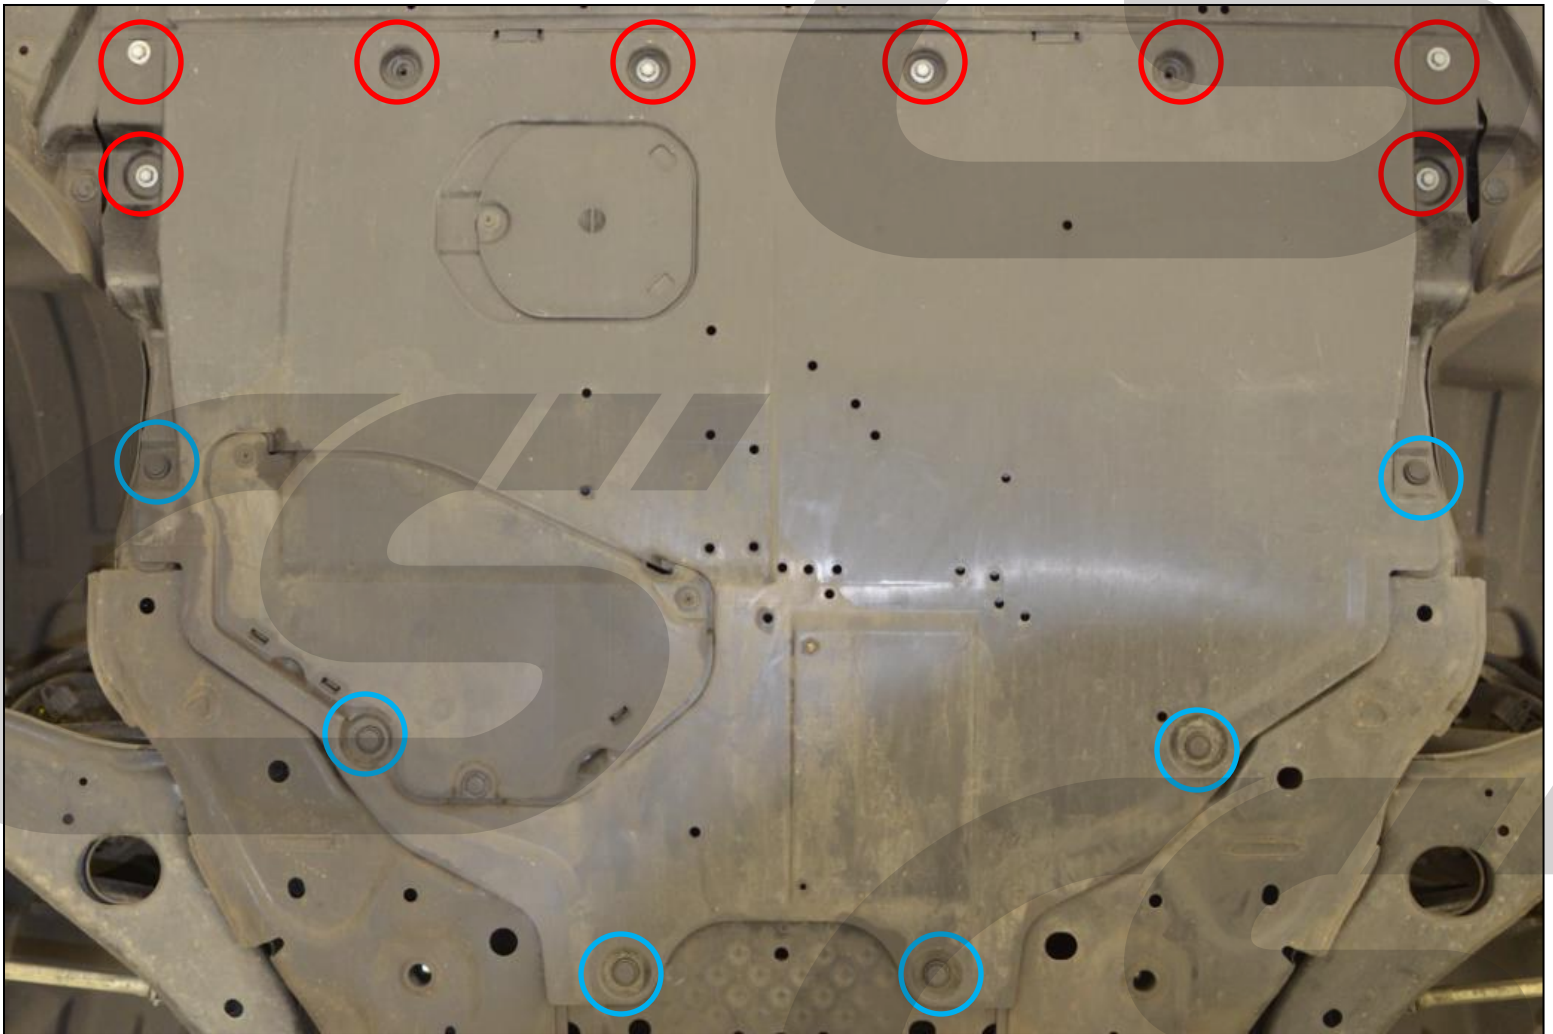

Figure 1a
- d) **Remove the engine under tray.** Use a 10mm to remove the bolts **circled in red** and a large flathead screwdriver for the plastic pop clips **circled in blue** in **Figure 1a**.